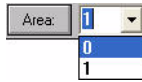

Figure 2-6 Selecting the second low area
3. Scroll down the Low Area selection box, located directly above the drawing area, and click 0 to select the first low area, as shown in Figure 2-6 and then click or press **Enter**